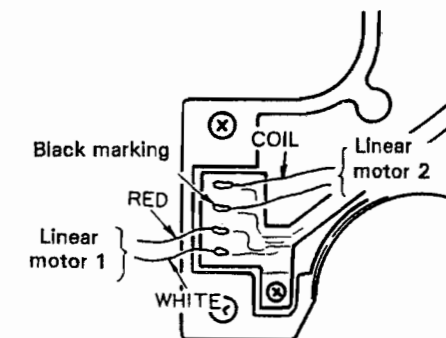

Figure 2
1. Connect the lead wire from the linear motor as shown in figure 2.